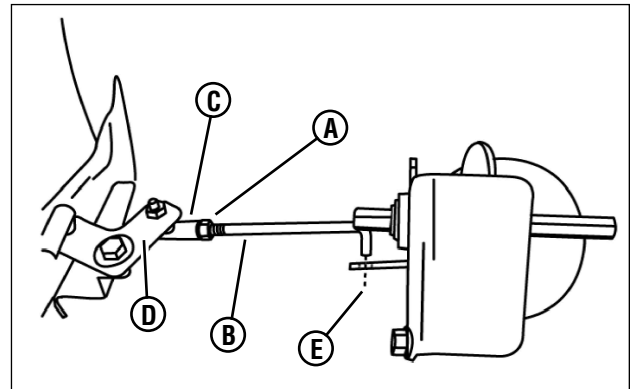

Figure 30: Adjusting the transfer rod
4. Loosen the jam nut (A, Figure 30) securing the transfer rod (B) to the ball joint (C) on the pivot bracket (D).
5. Turn the rod in or out of the ball joint until the end of the rod aligns with the hole (E) in the driven disc assembly from which the rod was removed.